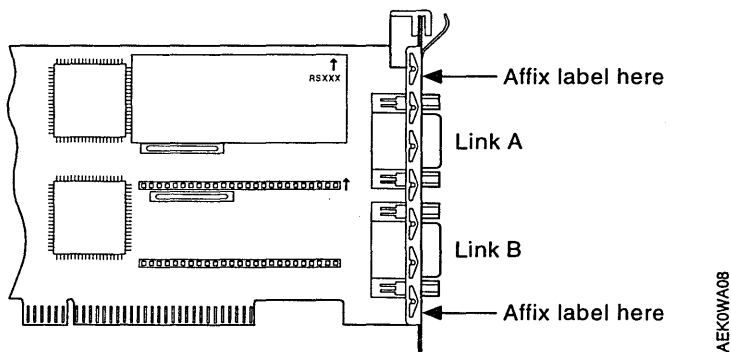

Figure 23. Identifying Link Connectors on a WAC Adapter Card
- 5 Affix a label identifying each link connector on the end plate next to the corresponding link connector. See Figure 23.